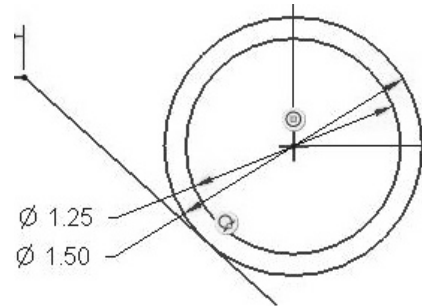

Figure 3-54 Slanted Surface Touches Outer Circle
Step 11:  Use the **Line** tool to draw the slanted-surface of the jig. Start at the base of the tab, move upward a couple of inches, then horizontally toward the two circles. Do not draw horizontally through the center of the circles. Stop before reaching the circles. Draw a slanted line that touches the outer circle tangent  (Figure 3-54), then draw a vertical line back down to the base.